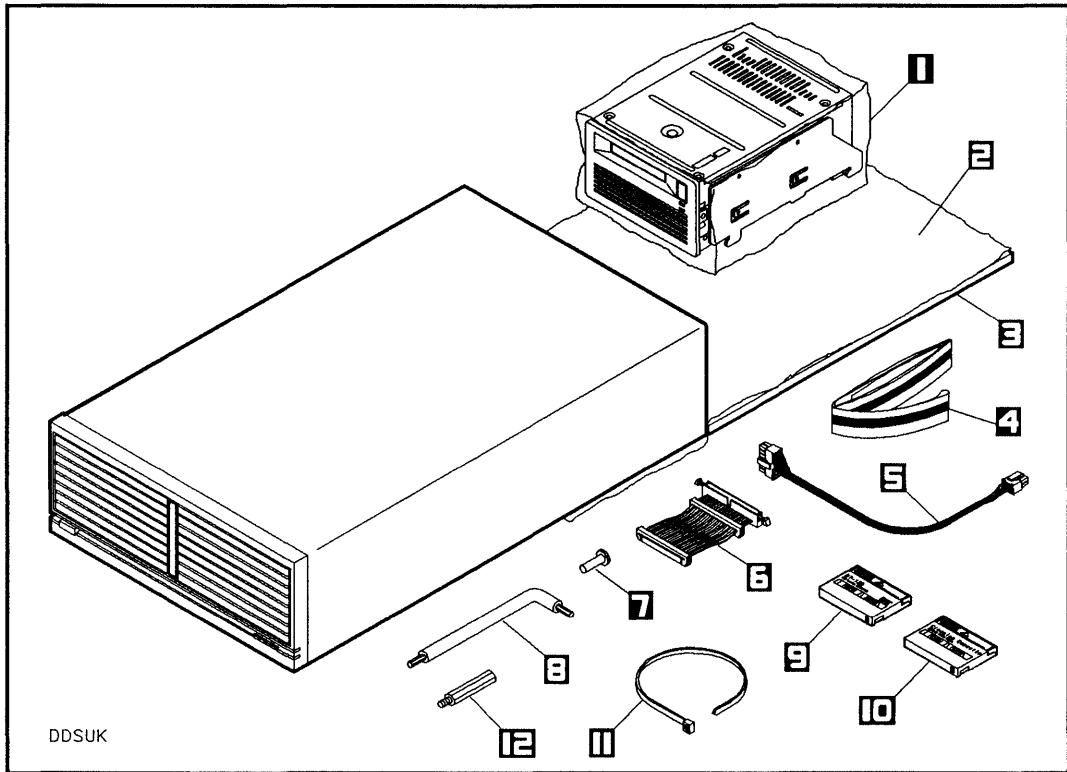

Figure 5-4. DAT Drive Upgrade Kit Contents
The following paragraphs describe how to install a DAT (DAT) drive into your mass storage system. A DAT drive can be added to your mass storage system as an upgrade kit. The C2292A upgrade kit includes one DAT drive. Figure 5-4 shows the contents of the C2292A upgrade kit.
The first step when installing a DAT drive into your mass storage system is to unpack and identify the contents of the C2292A upgrade kit. Figure 5-4 shows the contents of the C2292A upgrade kit.
6. Place the rear of the mass storage system chassis on the conductive sheet as shown in Figure 5-4.